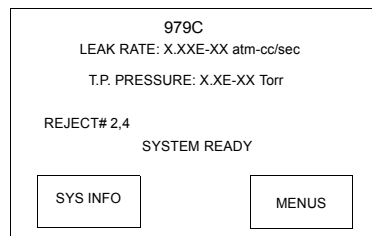

Figure 4-10 979C Touch Panel Home Screen
1. Verify that the leak detector is in the SYSTEM READY condition on the Home Screen (Figure 4-10) and that the test port plug is in place.
1. Verify that the leak detector is in the SYSTEM READY condition (Figure 4-10) and that the test port plug is in place.